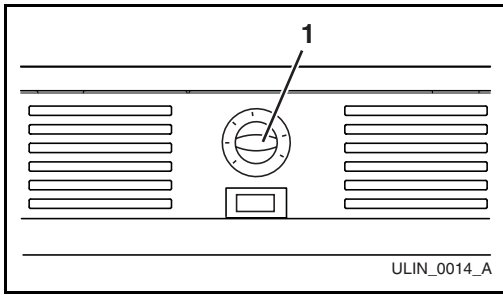

Figure 20
1. Remove the control knob (**Figure 20, 1**) by pulling it away from the cabinet.